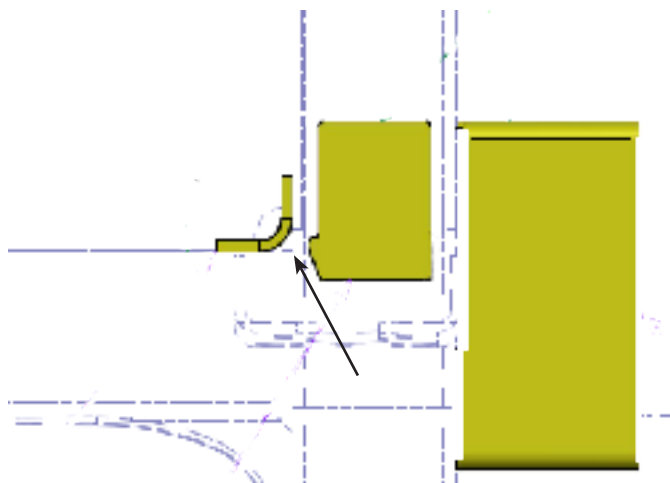

Figure 15 - Fill the Gap for N71118
- 1.25. Fill the corner gap between the structure and N71118. See Figure 15.